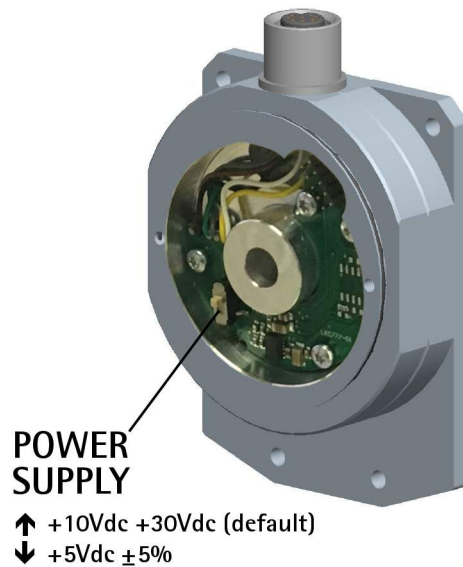

Figure 6
* The power supply voltage level must be set through the POWER SUPPLY DIP switch located inside the enclosure of the converter, see the "4.7 POWER SUPPLY DIP switch (Figure 6)" section on page 33.
4.7 POWER SUPPLY DIP switch (Figure 6)